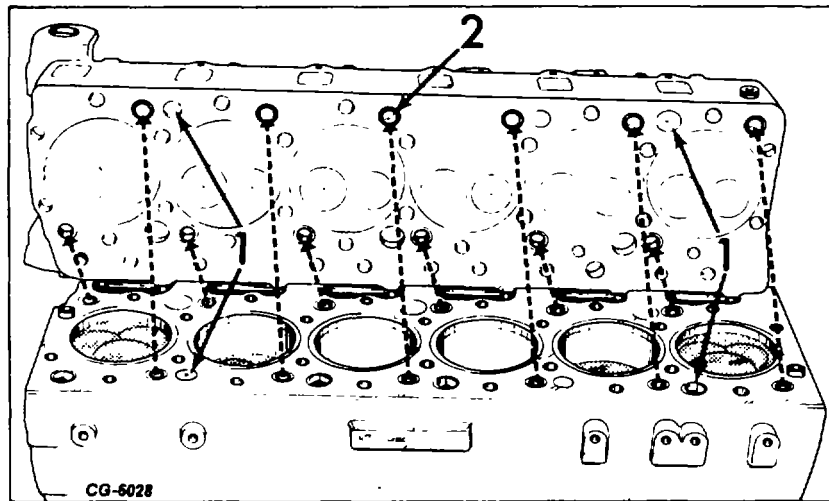

Figure 2. - Coolant Passages In Cylinder Head and Crankcase
Coolant directors (2, Fig. 2) in the cylinder head water passages direct the coolant for scrubbing the valve seat areas and nozzle tubes, as shown. Two air bleed holes (1) vent the crankcase into the cylinder head coolant passages.